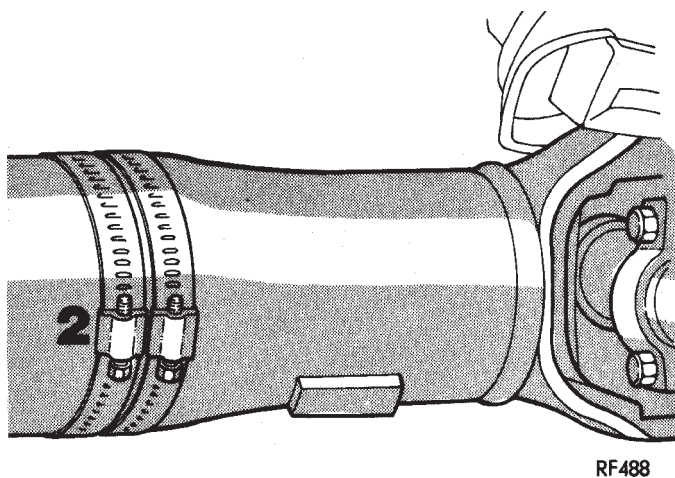

Fig. 7 Two Clamp Screws At The Same Position
(11) If there is no difference in vibration at the other positions, the source of the vibration may not be propeller shaft.
(12) If the vibration decreased, install a second clamp (Fig. 7) and repeat the test.